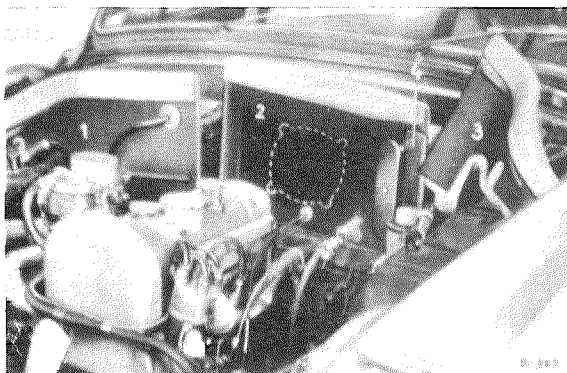

Fig. 42—15/1
2. Unscrew the flash signal mechanism (22) (see Fig. 42—14/1) from the bracket (do not disconnect the cables).
Unscrew the hexagon nut (24) from the threaded union (23) of the oil pressure gage line, holding the line steady with an SW 14 wrench (see Fig. 42—14/1).